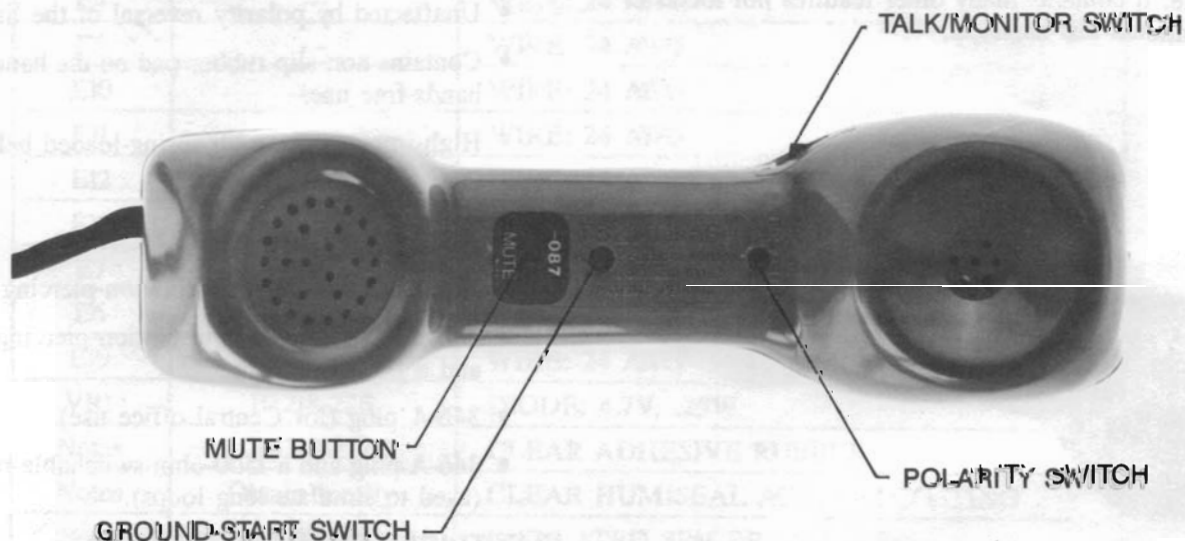

Fig. 2 - TS21 Handset Assembly—Transmitter and Receiver Side
3.01 The TS21 Craft Test Set (Figures 2 and 3) has a two-piece case made of high-impact plastic. The case is specially contoured to fit the shoulder and is equipped with a non-slip rubber pad to facilitate hands-
3.08 Talk/Monitor Switch: The TALK/MONITOR switch is a black rocker switch located on the side of the test set near the receiver (Figure 2). In the T (TALK) position, it establishes an off-hook condition for dialing and talking. In this mode, the test set performs as a common battery telephone. In the M (MONITOR) position, the switch removes the transmitter from the circuit and provides a high-impedance coupling to the line. This allows monitoring of the line without disrupting a conversation in progress, data or signaling transmission.
3.12 Polarity Switch and LEDs: The **POLARITY** push-button switch is located on the inside of the handgrip, just under the receiver (Figure 2). The polarity indicators consist of a green (or yellow on earlier models) LED located in the upper left-hand corner of the keypad bezel and a red LED in the upper right-hand corner. The **POLARITY** switch and the LEDs are used to determine the polarity of a telephone line.
3.13 Mute Switch: The **MUTE** push-button switch is located on the inside of the handgrip, just above the transmitter (Figure 2). When pressed, this switch shorts out the transmitter to improve the reception in noisy locations.
3.14 Ground Start Switch (Model 087 only): The **GROUND START** push-button switch is located midway between the **MUTE** and the **POLARITY** switches (Figure 2). When pressed, this switch connects the green lead (ground) to the red lead (ring), initiating a ground-start seizure of a trunk.